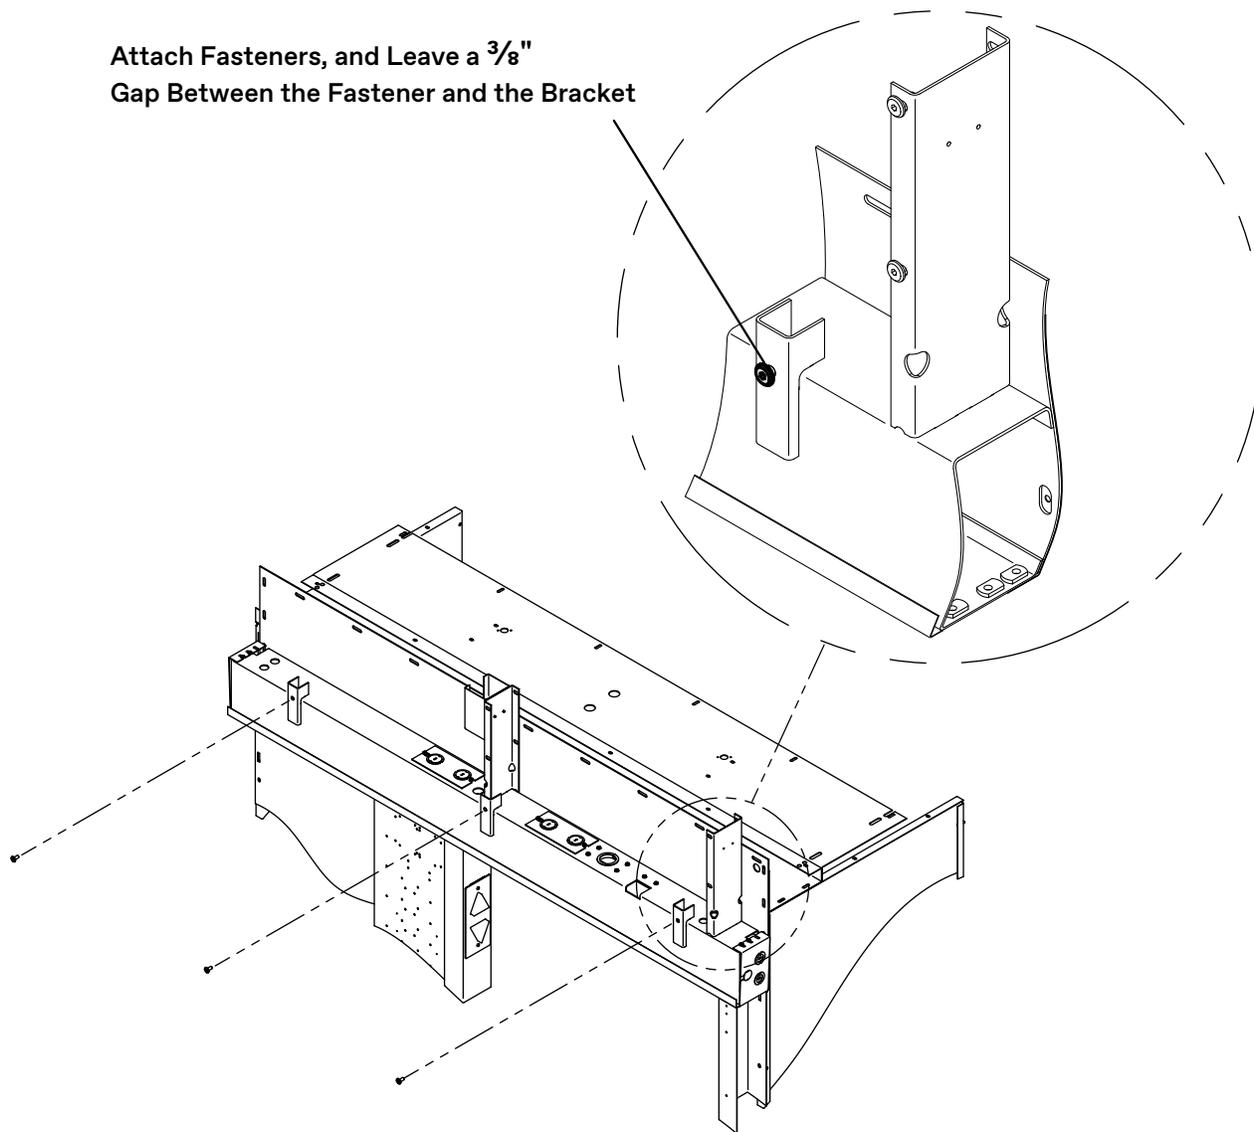

Figure 3 - Attach Fasteners and Remove the Cover Plate
7. Attach the fasteners to the header and leave a $\frac{3}{8}$ " gap between the bracket and the fastener. See Figure 3 on page 15.